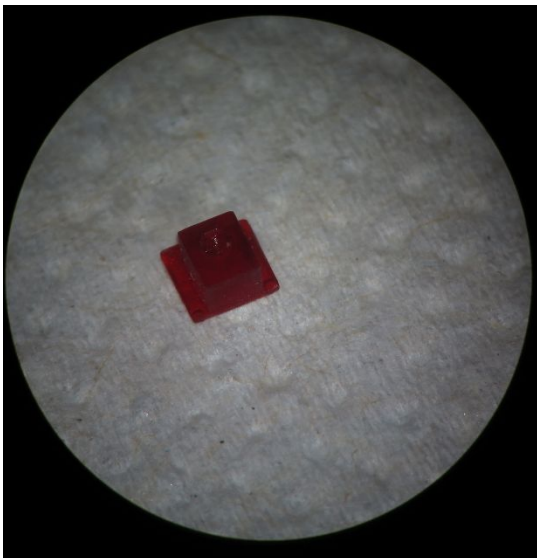

Figure 8: Screw-base
7. After you drilled a hole in both rails, remove the template rail. Now you can glue the small 3D-printed screw-base (Figure 8) to the inner rail and let it dry (Figure 9). Make sure to use the right side of the screw-base, so that it fits into the rail.